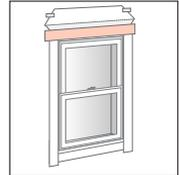

fig. 21
- Cut a piece for head flashing that extends beyond outer edges of jamb flashings. Remove release paper and install completely covering mounting flange and adhering to exposed sheathing or framing material. Use a flashing roller to assure a weather tight seal. (fig. 21)